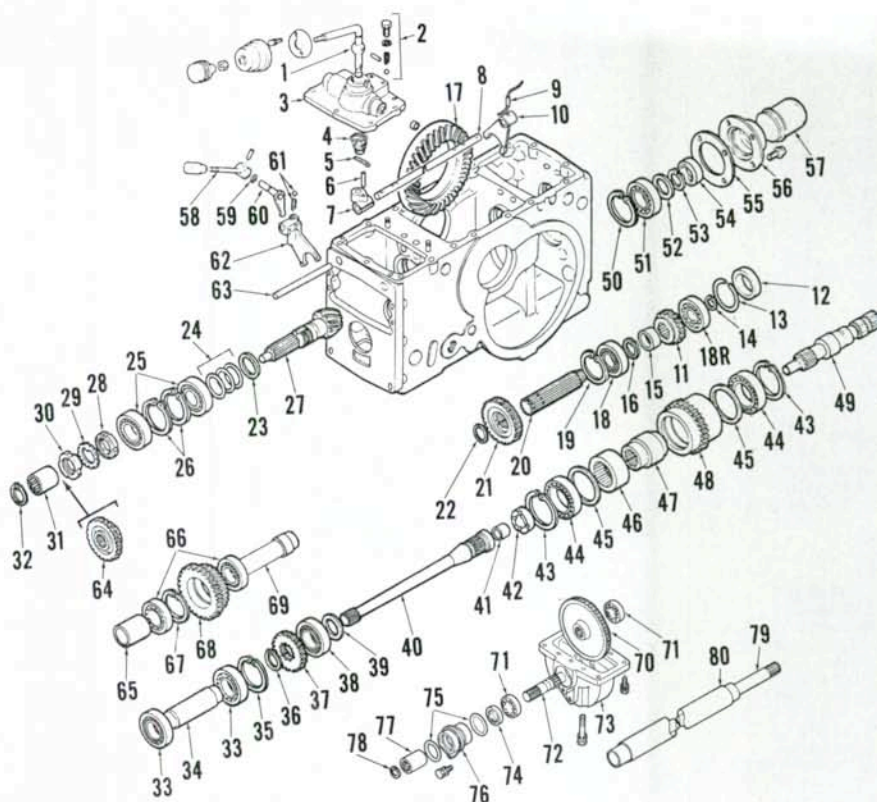

Fig. 244—Exploded view showing pto drive and front wheel drive components typical of 1300 and 1500 models with single plate clutch.
165. The pto output shaft oil seal (53—Fig. 244 or 245) can be renewed after unbolting and removing retainer (55). To remove other components of pto drive, it is necessary to first separate transmission from rear axle center housing as outlined in paragraph 136 and remove hydraulic lift cover as outlined in paragraph 180.
On 1300 and 1500 models, drive roll pins out of shift rail (8—Fig. 244). Slide
On all models, remove cover (12—Fig. 244 or 245) and snap rings (13 and 14) from rear of upper countershaft (20). Remove snap ring (22) and gear (21) from front of countershaft. Tap counter-
Fig. 245—Exploded view of pto drive components typical of 1310, 1510 and 1710 models. A fixed gear is used in place of one-way clutch assembly (43 through 48) on models with "live" pto. Refer to Fig. 244 for legend.